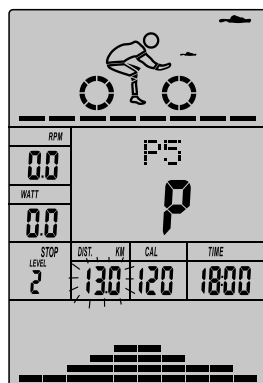

Fig 27
- The distance display will flash, and then press (or rotate) button UP/DOWN to set up the desired distance value. Press ENTER to confirm the value. (Fig 27)